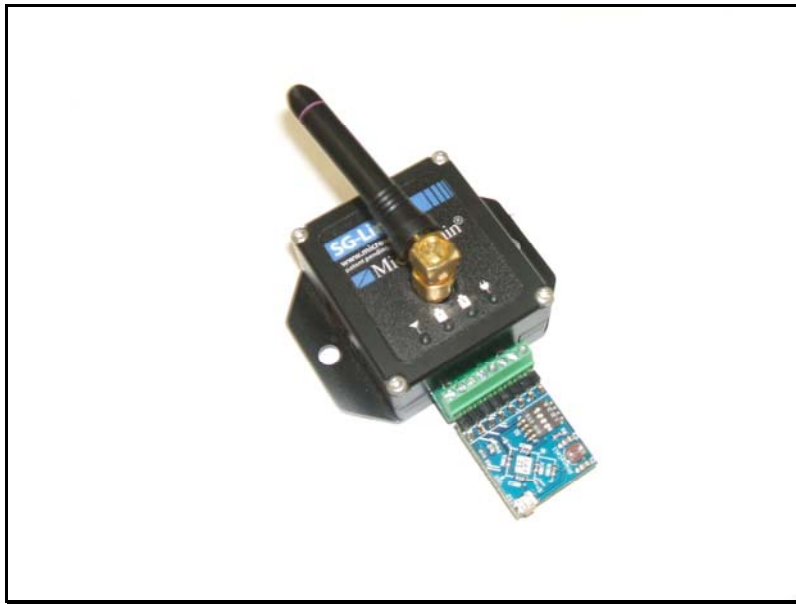

Figure 2
- Insert the 8 fingers of the Tester Board into the Phoenix connector as shown in **Figure 2**.